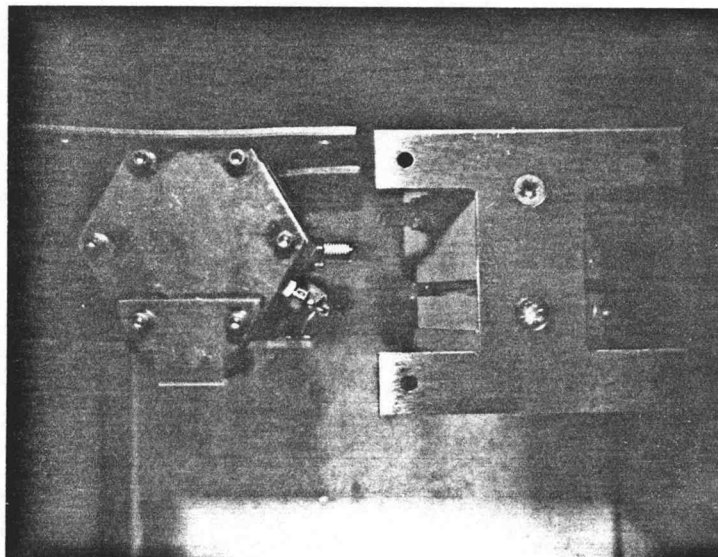

Fig. 6
- H. Remove screws and install cover on top, and H bracket on bottom (Fig. 6) screw down H bracket onto test fixture plate.